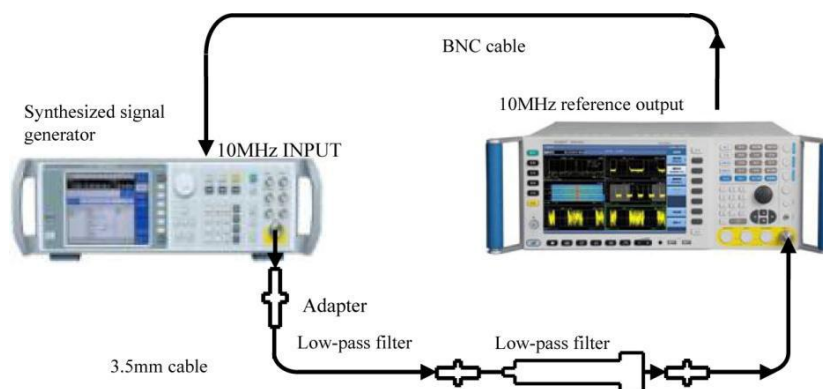

Fig. 8.15 Schematic diagram of second harmonic distortion test
1) Connect the instrument as shown in Fig. 8.15. Reset the S3503 analyzer and connect 50 matcher at the signal input 50 interface.
- 1) Connect the 500 MHz low-pass filter and the BNC cable to the instrument as shown in Fig. 8.15. Reset the S3503 analyzer to provide frequency reference for the synthesized signal generator.
- 7) Connect the instrument as shown in Fig. 8.15 and use 1.6 GHz low-pass filter.
- 11) Connect the instrument as shown in Fig. 8.15 and use 4GHz low-pass filter.
- 15) Connect the instrument as shown in Fig. 8.15 and use 9GHz low-pass filter.
19) Connect the instrument as shown in Fig. 8.15 and use 26.5GHz low-pass filter.